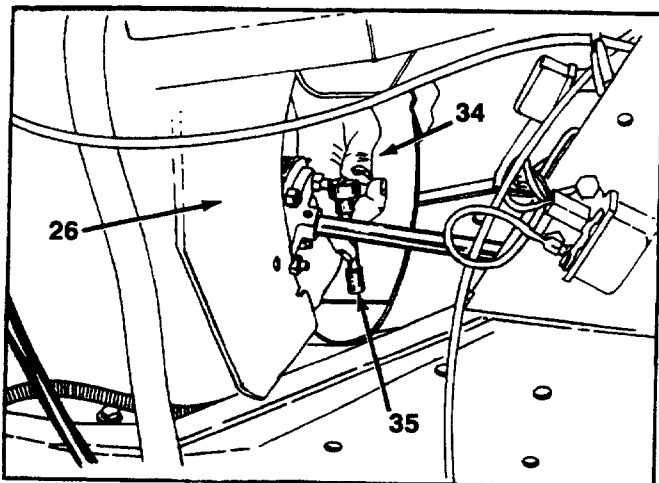

FIGURE 18.
19. Remove one self-tapping screw at bottom of coupling guard (attached to heat shield). See figure 18.